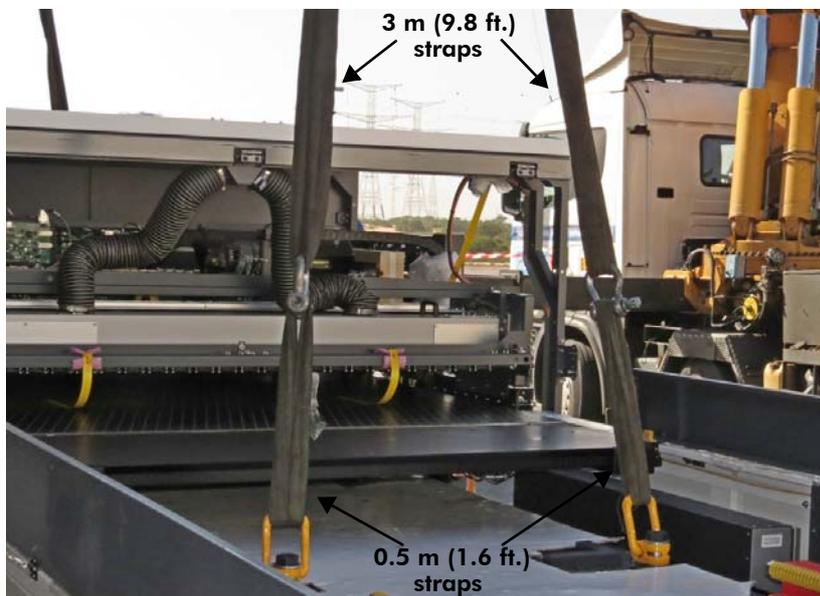

Figure 5-16 Attaching Straps to Eyebolts
- Attach 3.5 m (11.5 ft.) straps to the eyebolts on the far side of the chassis. (The correct length can be achieved by attaching short straps to standard 3 m [9.8 ft.] straps, as shown in Figure 5-16.)